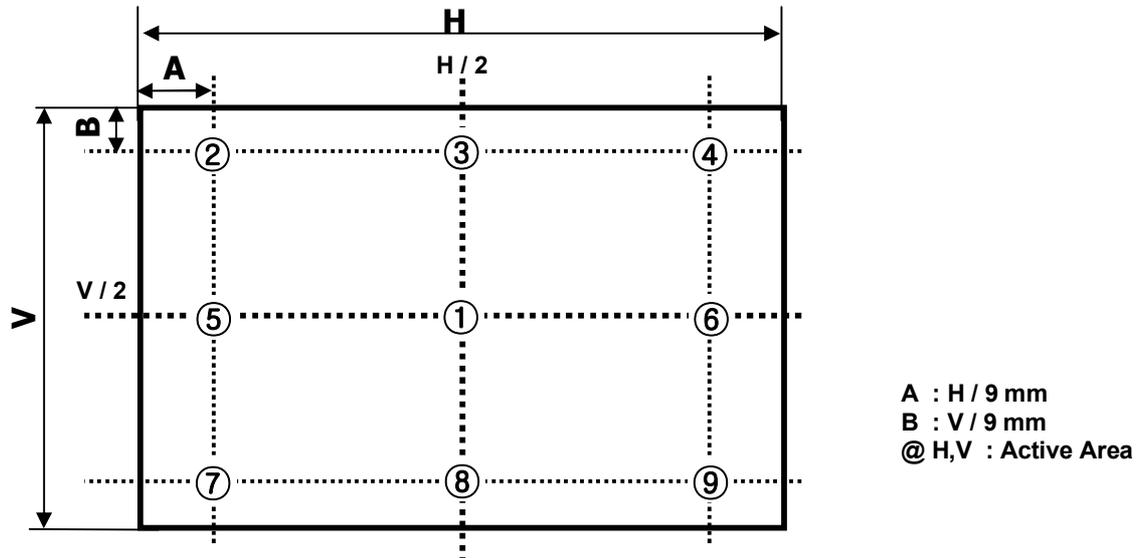

FIG. 2 9 Points for Luminance Measure
2. Surface luminance are determined after the unit has been 'ON' and 1 Hour after lighting the backlight in a dark environment at  $25 \pm 2^{\circ}\text{C}$ . Surface luminance is the luminance value at center 1-point across the LCD surface 50cm from the surface with all pixels displaying white. For more information see the FIG. 2.
For more information, see the FIG. 2.